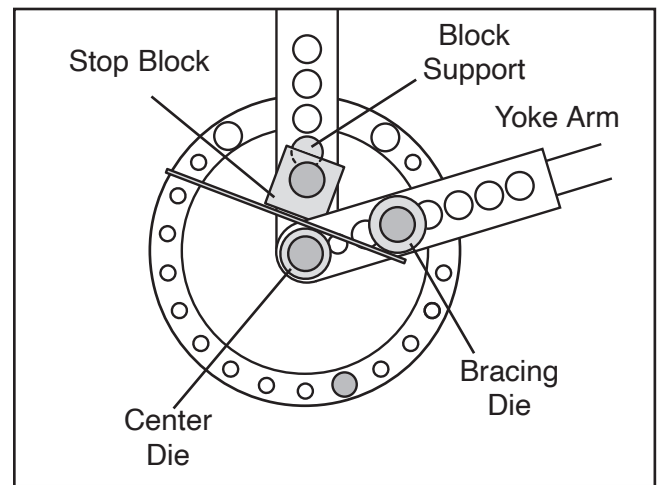

Figure 4. Basic radius bending setup.
To perform basic radius bending (Figure 4):
2. Mount the block support and stop block onto the bending bracket as shown in **Figure 4**. Make sure that the block support is positioned as close to the stop block hitch pin as possible.